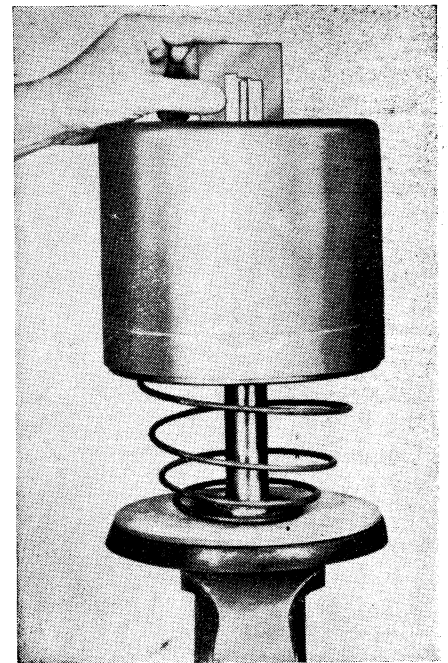

Fig. 24 Showing Hydrovac push rod gauge in use
37. Using special gauge, Fig. 23, check length of push rod by measuring distance from end of cylinder shell to end of push rod, Fig. 24.